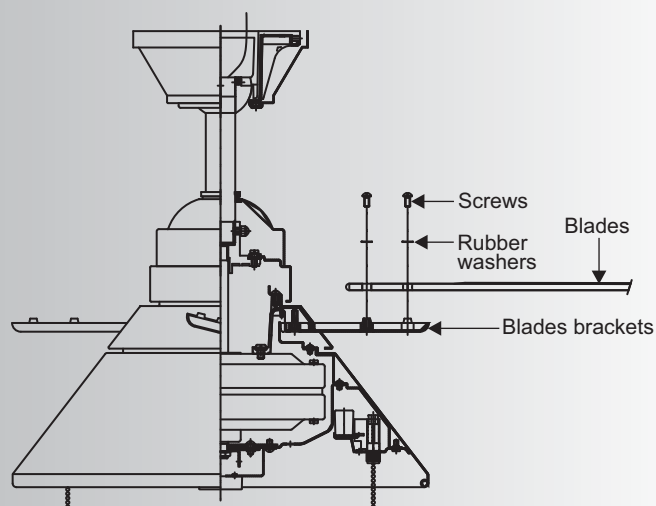

Fig. 14
Step 1. Attach a blade to a blade bracket using the screws and rubber washers provided. (Fig.14)